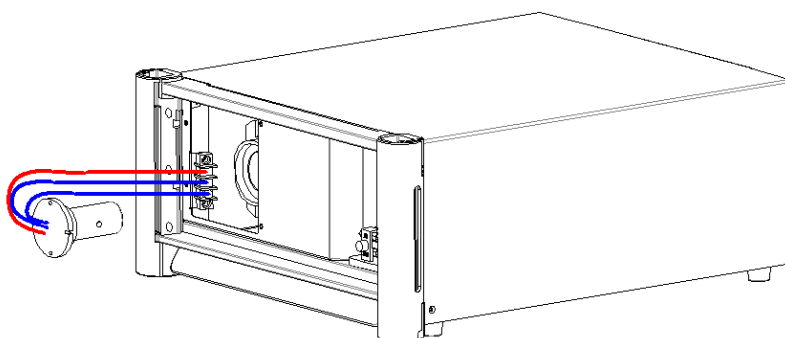

Figure 5-3 Pull the lamp out
- 3) Unscrew the 3 lamp connecting terminals, as shown in Figure 5-3. Then loosen the 2 deuterium lamp mounting screws, and pull the lamp out of the lamp housing.